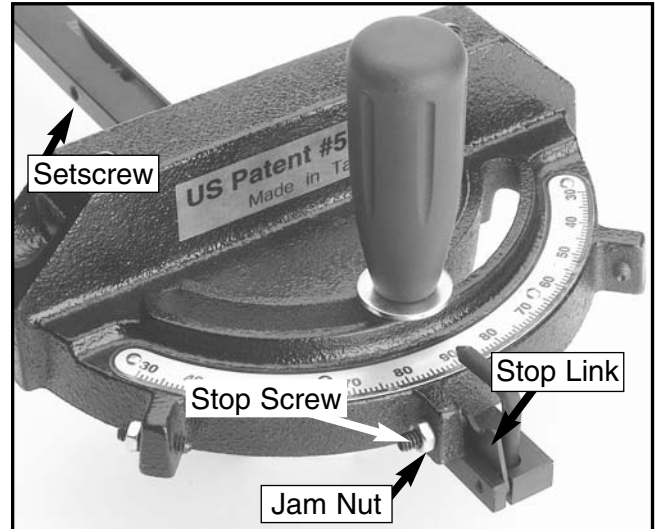

Figure 23. Miter gauge adjustment points.
1. Loosen or tighten the two miter bar setscrews (**Figure 23**) until the miter gauge slides freely in the slot, but has no loose movement.
5. With the stop link (**Figure 23**) in the up position, loosen the jam nut and adjust the stop screw until it is seated against the stop link.